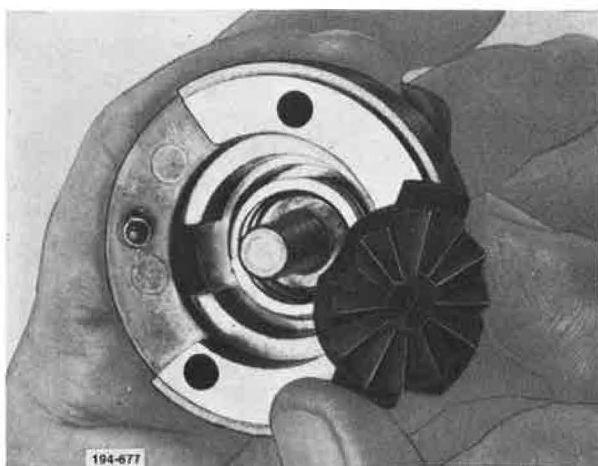

Figure 5-814. Removing Detent Wafer
5. Remove detent wafer from cover. See **Figure 5-814.**